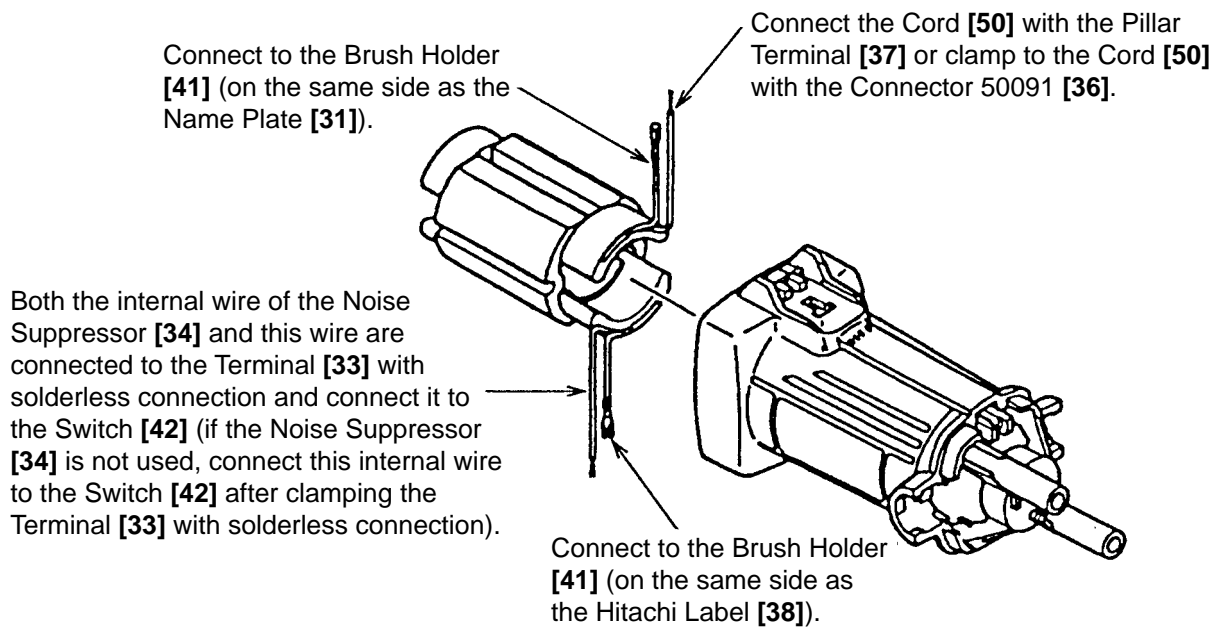

Fig. 10
- (5) When installing the Stator [15] into the Housing Ass'y [30], insert it while taking care of the placement of the internal wires of the stator [15] as indicated in Fig. 10. Connect the four internal wires of the Stator [15] with the parts indicated in Fig. 10.